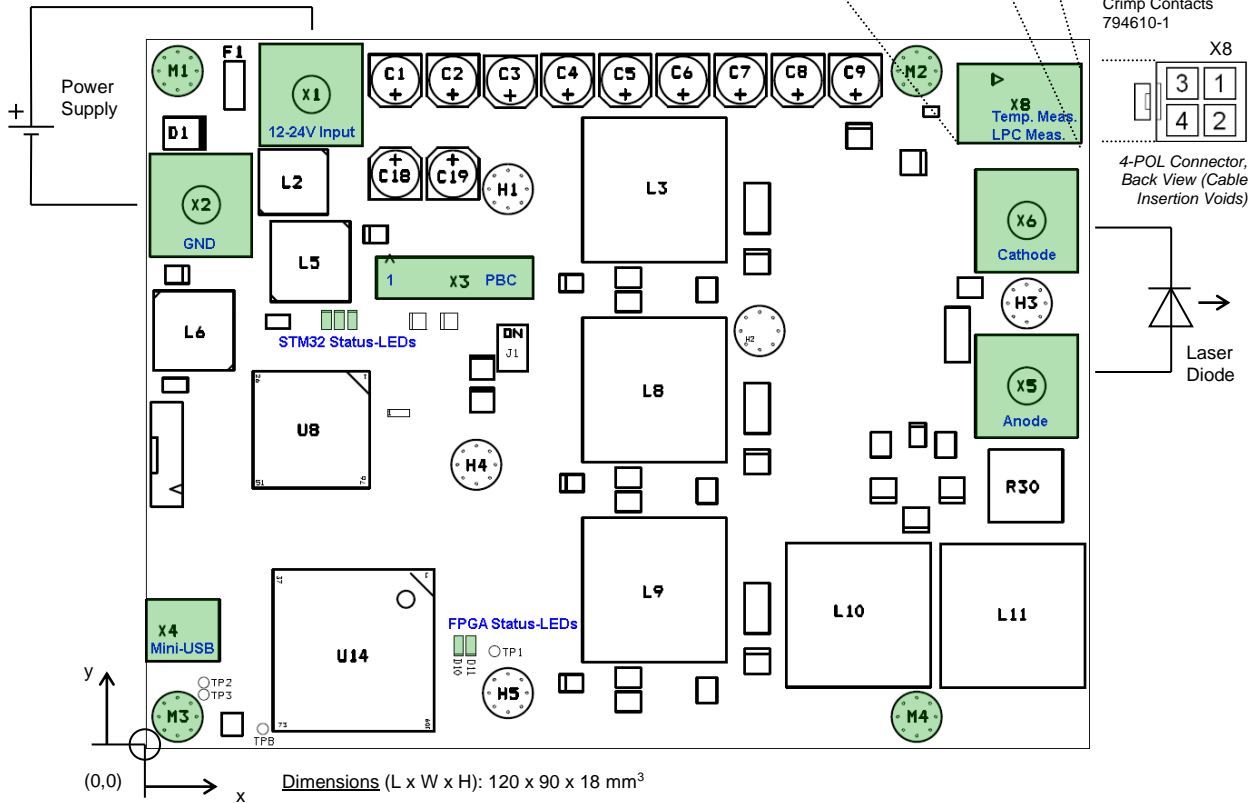

Figure 1. Schematic top view of an LDD-1121-based laser diode driver. Elements relevant to the end-user are highlighted.
- Locate the four mounting holes M1-M4 (see Figure 1)
Either the green or the red STM32 Status-LED (see Figure 1) should be blinking / lit. The status of the blue LED can be ignored